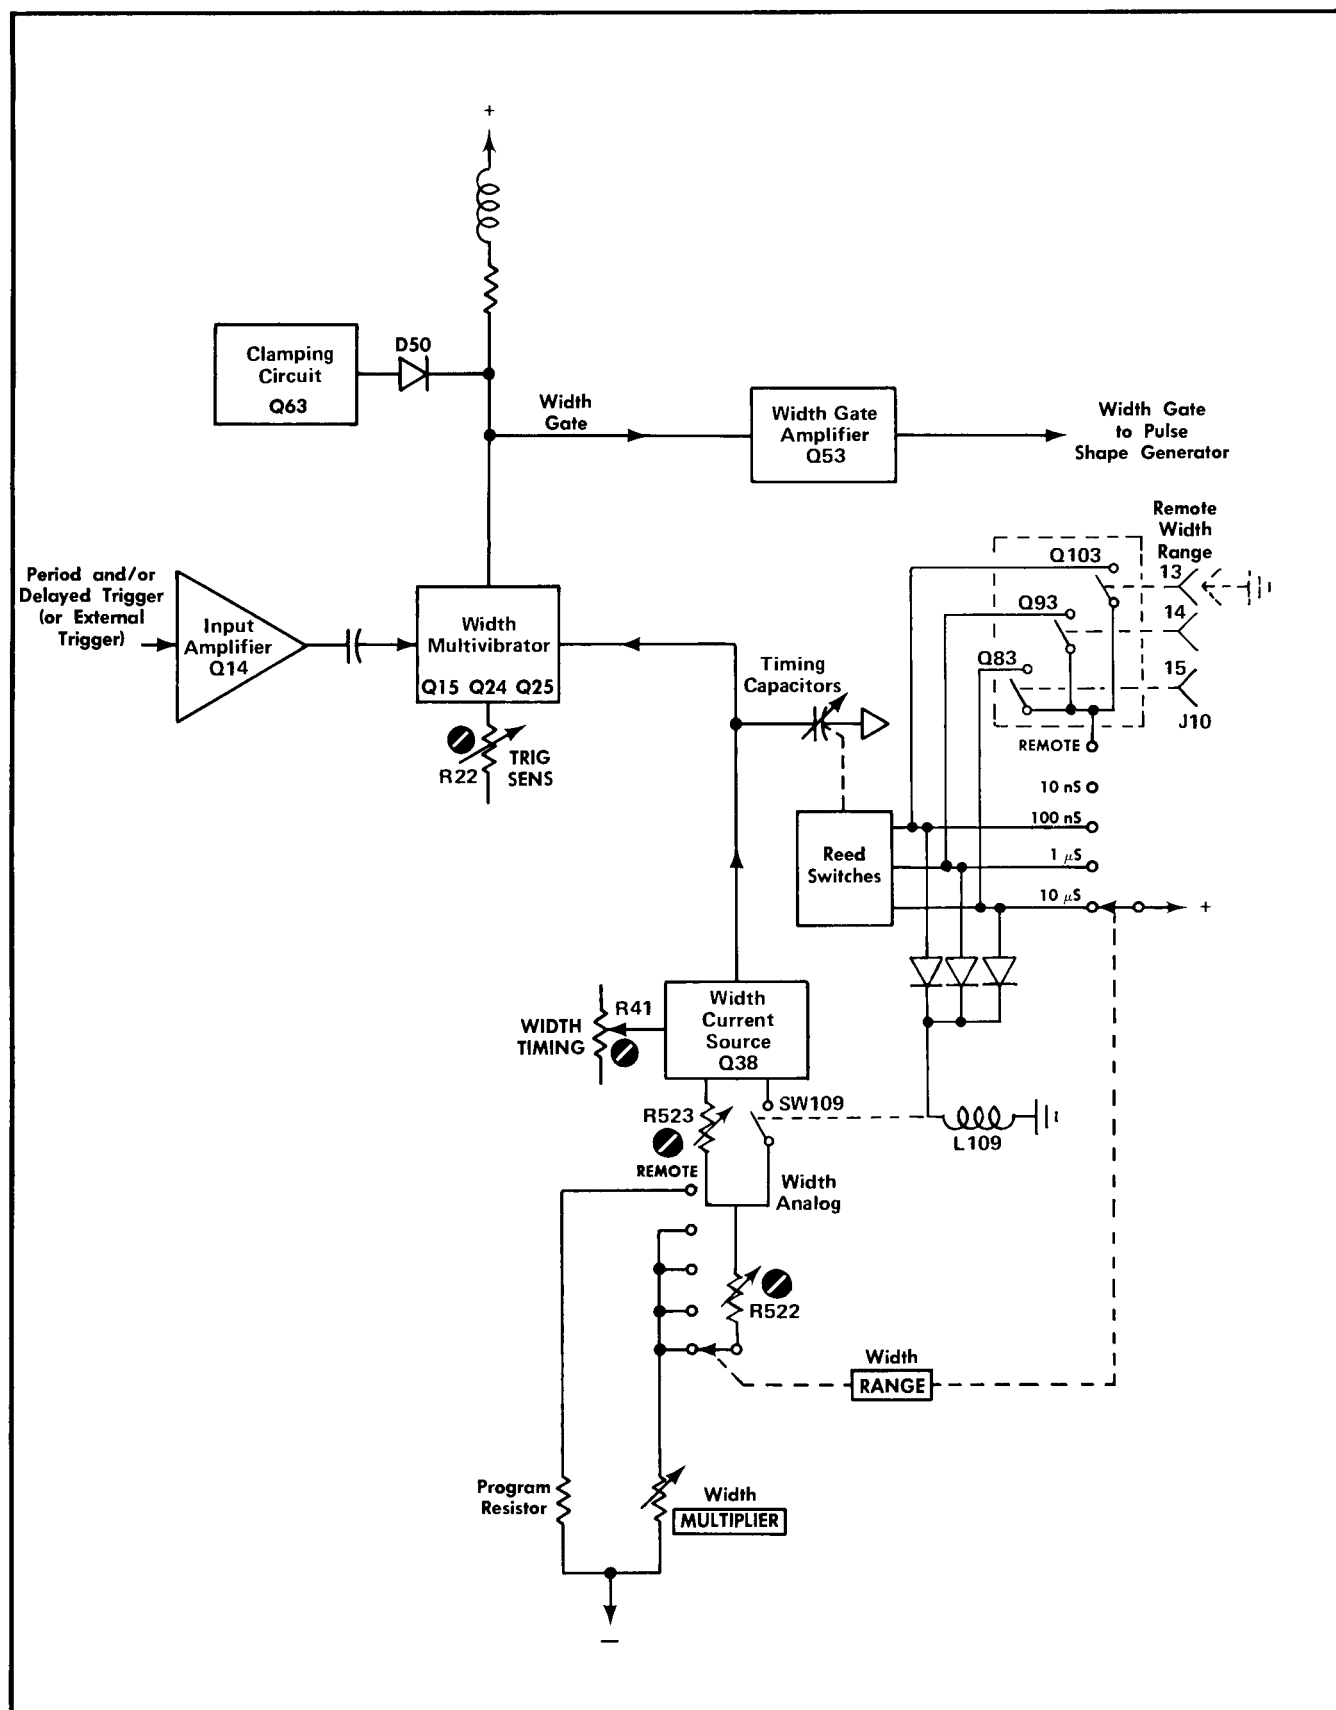

Fig. 4-6. Block diagram of the width generator circuit.
**Width Generator.** The width generator is identical in operation to the delay generator except that it has no trigger amplifier stage. The only output of the width generator is a width gate. The width generator consists of input amplifier Q14 (see Fig. 4-6), multivibrator Q15, Q24 and Q25, current source Q38, clamp circuit Q63 and width gate amplifier Q53.